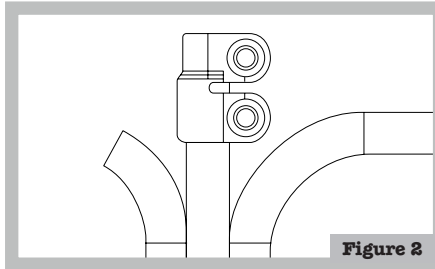

Figure 2
2. Install the left and right lower clamps onto the rack. The larger diameter end of the clamp fits over the bottom of the rack—grease the inside bore of each clamp, and use a mallet to tap each clamp onto the rack (Figure 2). The counterbores should be facing the outside of the rack, and the slots of the clamps should line up with the slots of the rack.